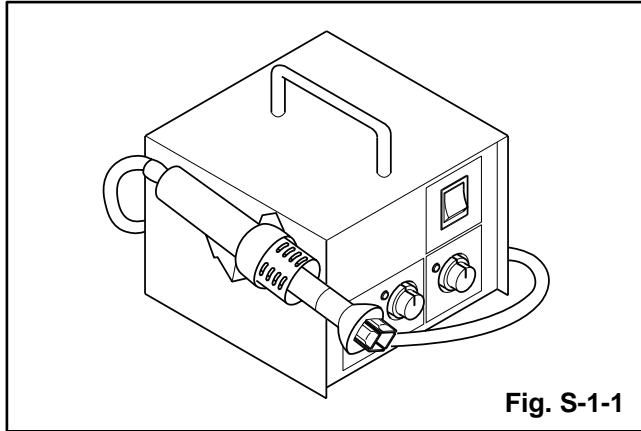

Fig. S-1-1
- (1) Prepare the hot-air flat pack-IC desoldering machine, then apply hot air to the Flat Pack-IC (about 5 to 6 seconds). (Fig. S-1-1)